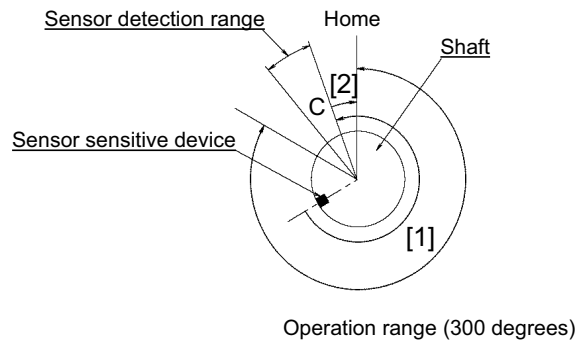

Figure 1
- 1) If the shaft does not detect the sensor at the home-return start, it moves counterclockwise in the view of the shaft tip ([1]), and it reverses if sensor is detected ([2]), and then stops when the Z-phase is detected. (Refer to Figure 1.)